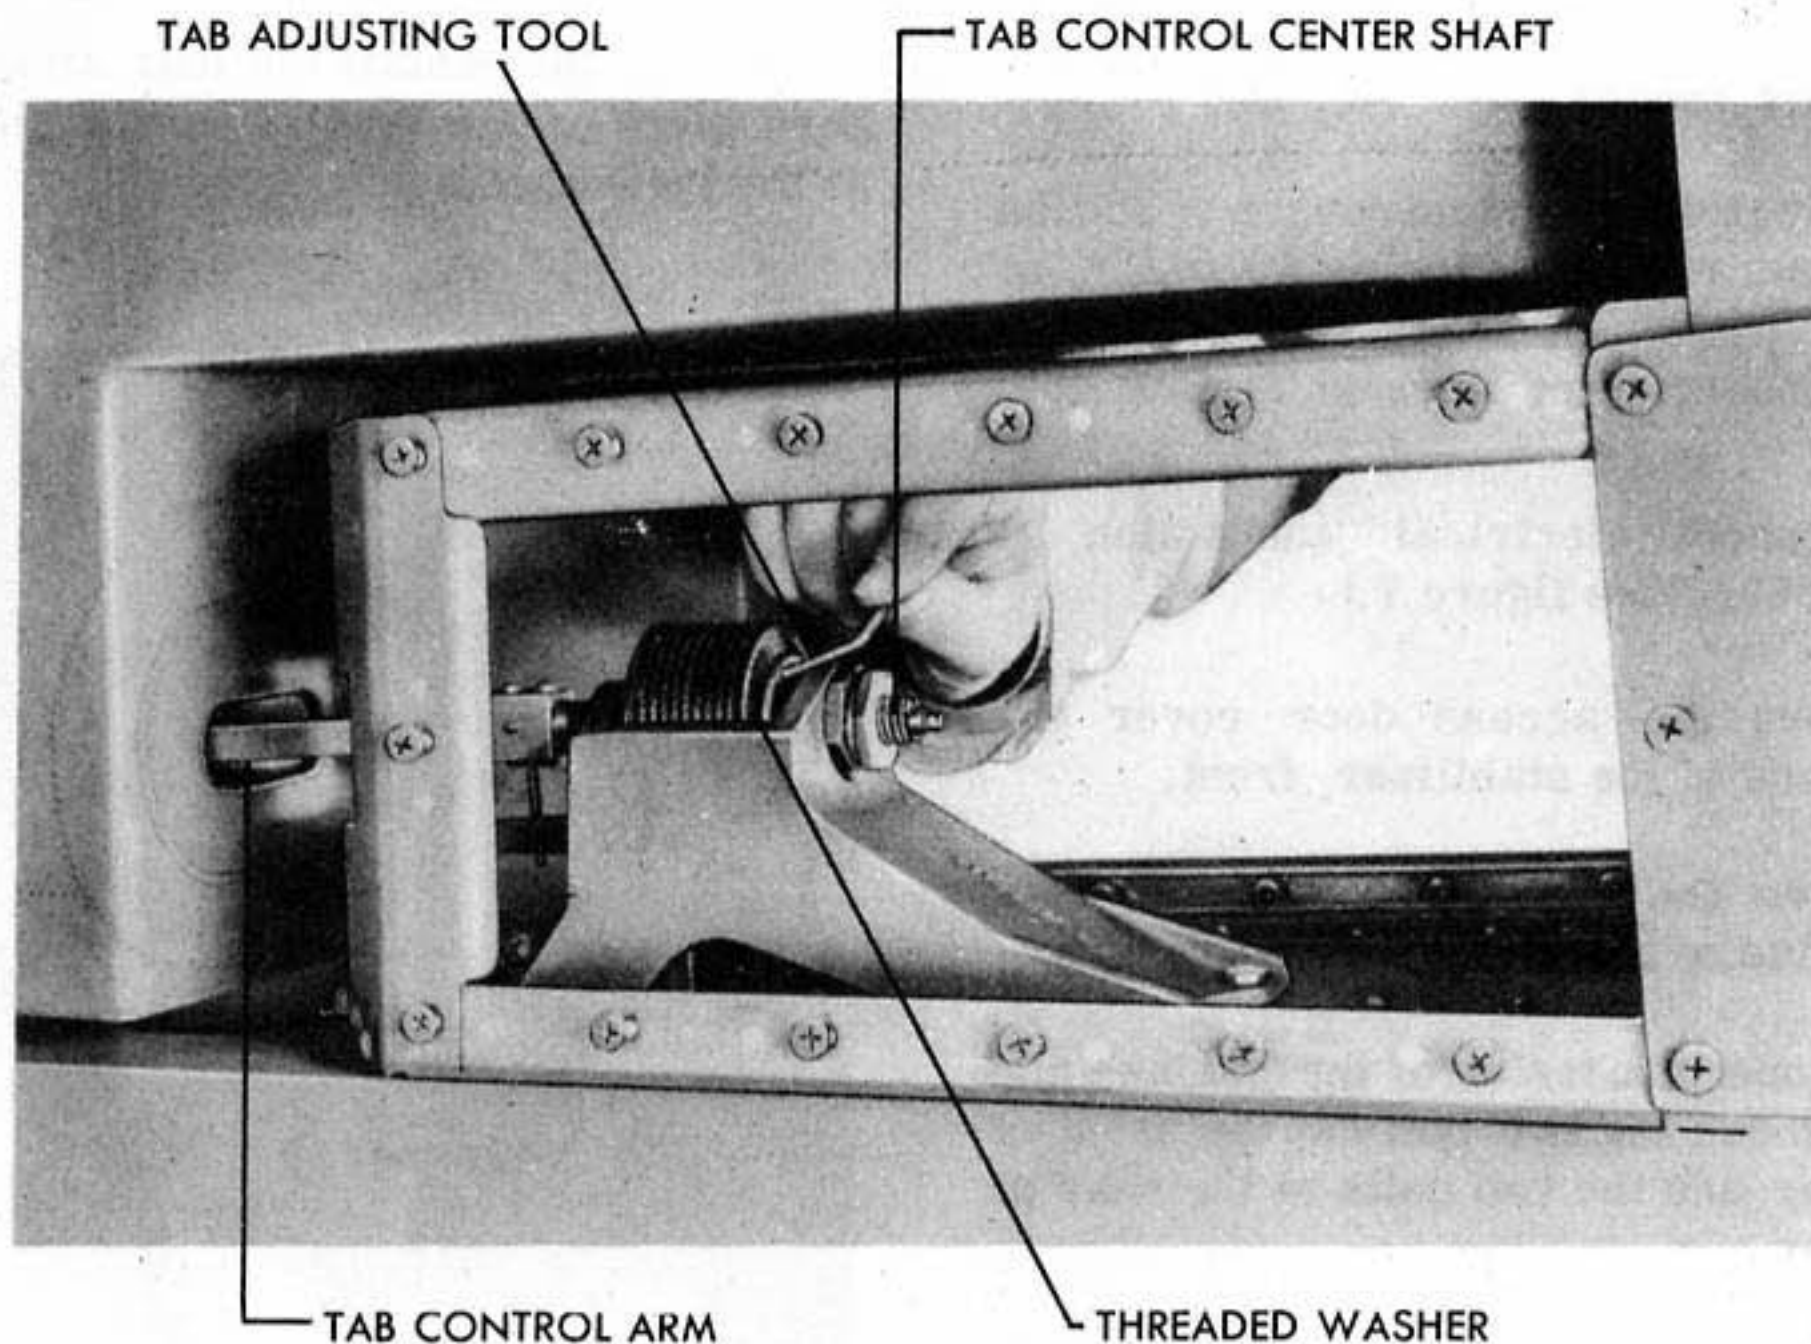

Figure 45 - ADJUSTING RUDDER TAB
(2) ADJUSTMENT OF RUDDER TAB. (See figure 45.)
(See figure 45.)